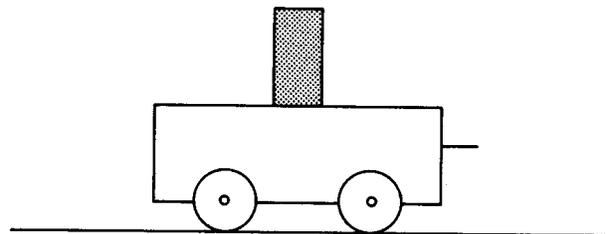

Figure 5-6
2. Stand the wooden block with its smallest base on the cart (Fig. 5-6).